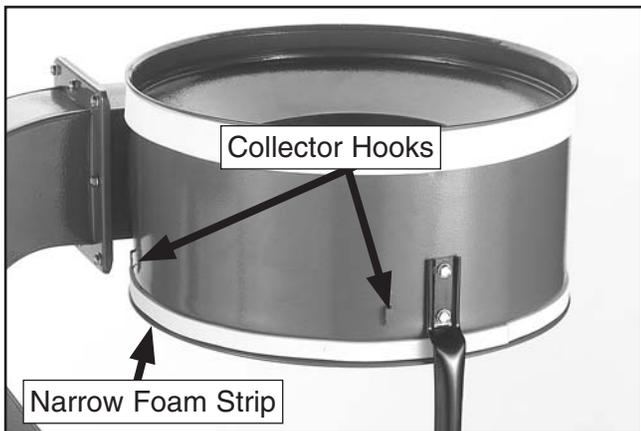

Figure 19. Trimmed foam strip and collector hook locations.
12. Secure the narrow foam strip around the outside bottom rim of the collector and trim the excess, as shown in **Figure 19**.